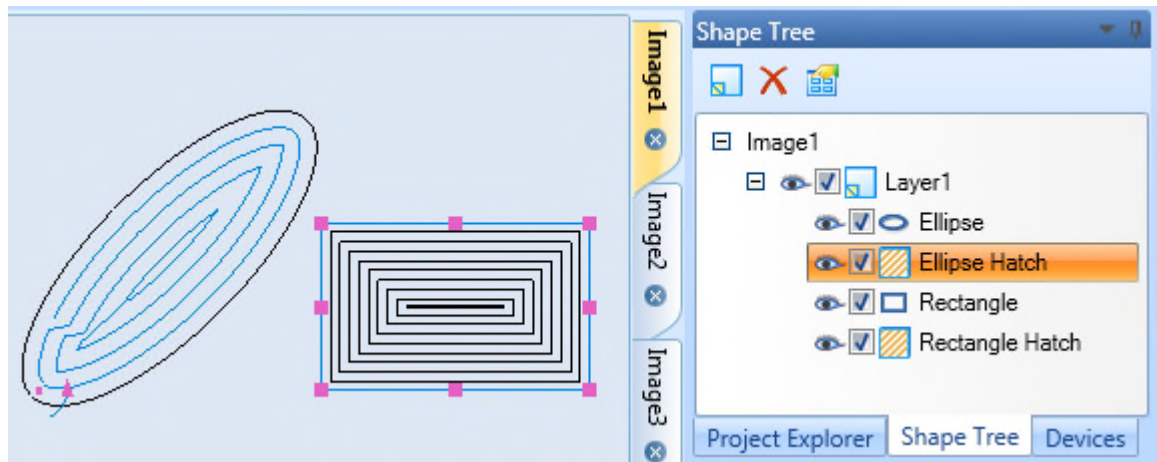

Figure 426: Selecting Shape hatching
- **On the Shape Tree:** Left-click the hatching item, which will become blue-highlighted on the Drawing Canvas as shown in Figure 426 (below).
You must be careful to left-click only the hatching, not the Shape itself. If you left-click the Shape itself, it will be selected and display hotspots—as shown on the rectangle in Figure 426 (below)—but the Shape hatching will not be selected.